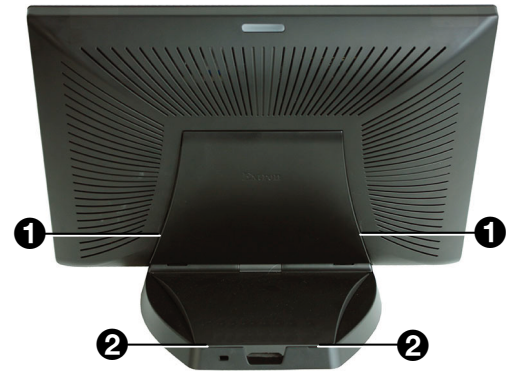

Figure 1. Remove the Back and Base Covers
1. Use the provided Extron removal tool. There is one notch on each side of the back cover (figure 1, ❶). Insert the tool into the notch to release the catch.
2. Use the removal tool to remove the base cover. There are two notches at the back of the base (❷).